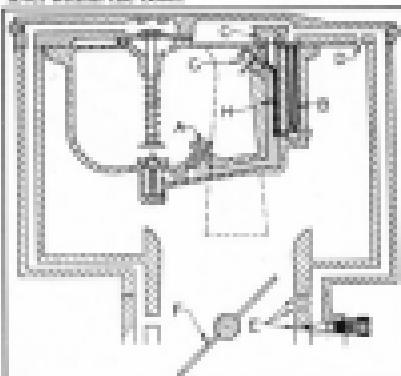

Fig. 289. Float Bowl System
As shown in Fig. 289, the throttle valves (F) are opened sufficiently that the manifold suction on the needles (K) is greater than at the idle discharge holes (E) in the throttle body; consequently, fuel continues to pass through the calibrated main metering jets (A) horizontally through the passage in the float bowl. However, the suction being greater on the needles, the fuel passes upward through the main wells, rather than the idle tubes, and out the discharge needles (G) in the manifold. The large main well tubes (H) have four drilled calibrated holes. The small top hole (.022") is located $7\frac{1}{16}$ " from the top of the bowl; it is, therefore, above the $9\frac{1}{16}$ " fuel level at all times and admits air from the main well bleed (C) in the cover to join with the fuel coming up the main wells, so that a mixture of fuel and air is passed by the needles.